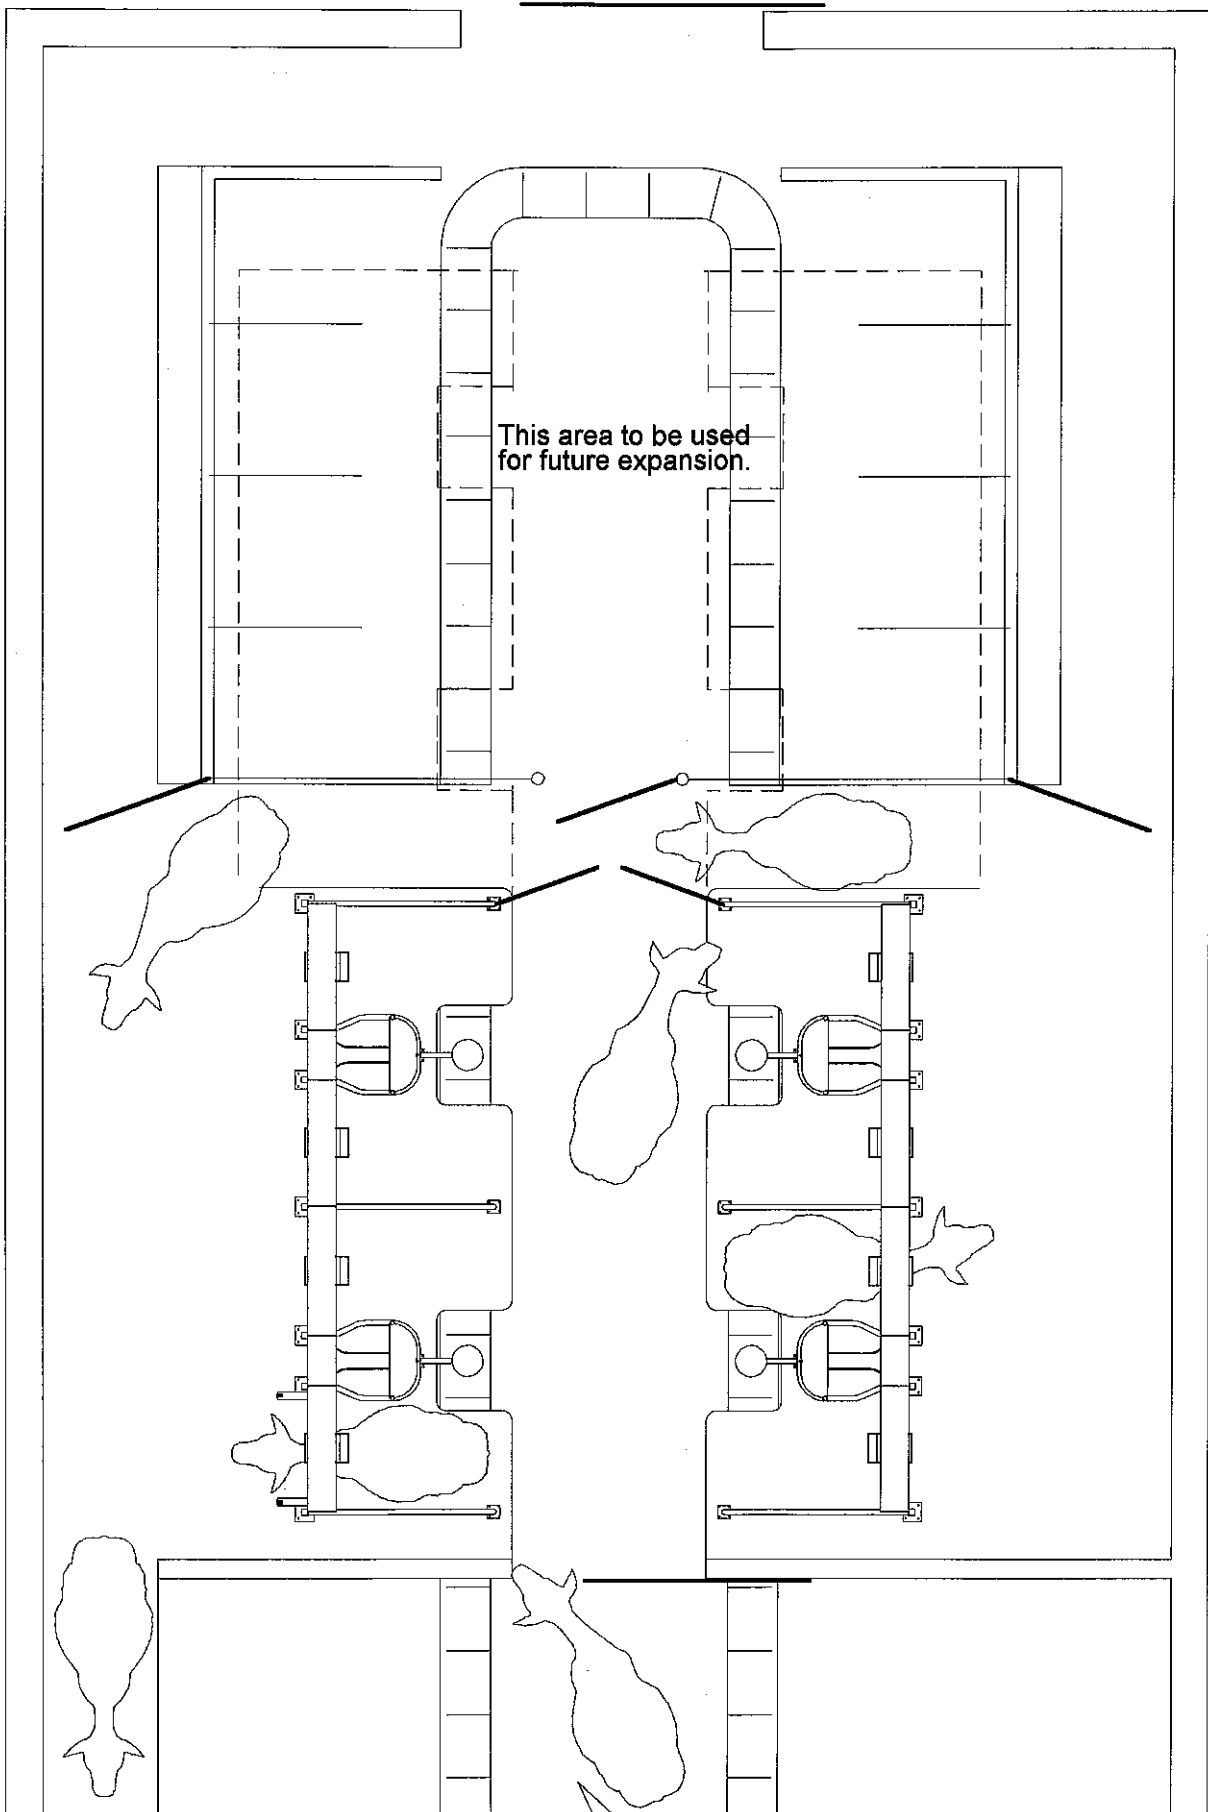

Figure 7.
**Example 2:** Figure 7 shows eight stalls configured in two rows(double four) installed along the length of the barn. Cows on the right side of the barn use a walkway to cross the barn and pass in front of the cows on the left side as they exit.